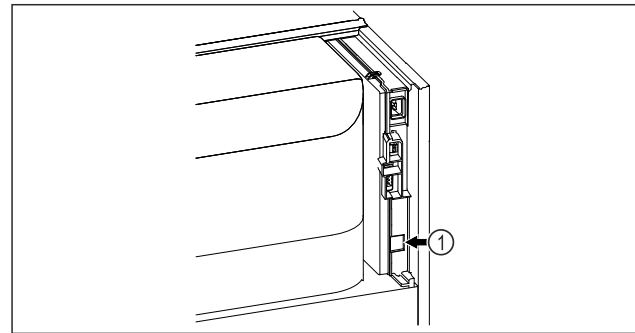

Fig. 60
- SmartModule Fig. 60 (1) is in use.